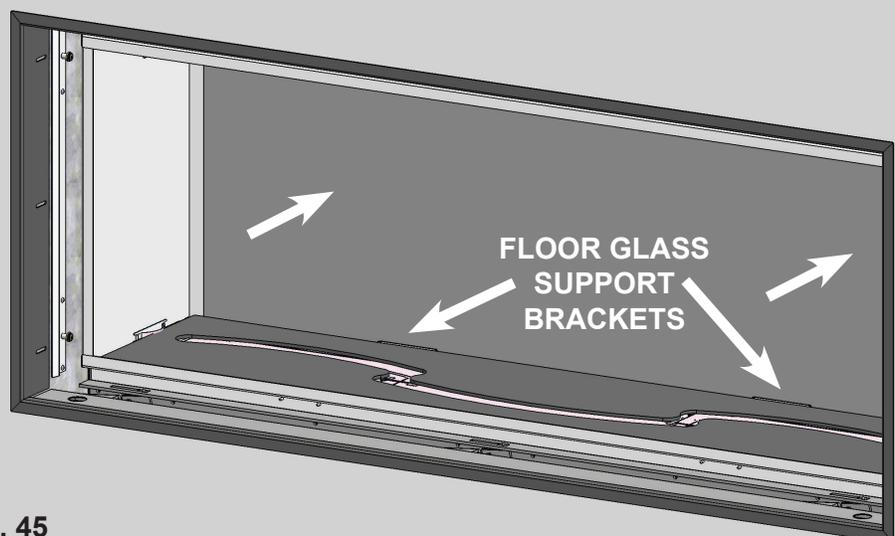

Fig. 45
6. Push the glass back against the rear wall of the firebox, centering it left to right. While holding the glass in position re-insert the rear glass clips from **STEP 4**, push them firmly against the glass and tighten the screws. (Fig. 45)